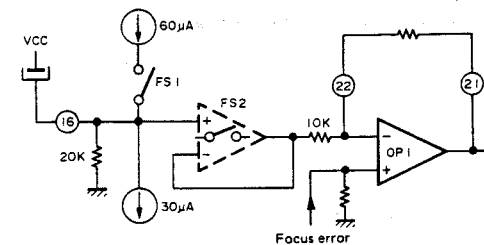

Fig. 6-3 Explanation of FS1, FS2
The operation of FS1, FS2 is described next. ②1, ②2 etc. in Fig. 6-3 indicate terminal numbers of CXA1244S (same hereinafter) OP1 is the operational amplifier for focus servo and the output of FS2 is connected to its inversion terminal. FS2 is such a switch that is ON and works as a usual voltage follower at the time of 1; and that its output is of high impedance at the time of 0. FS1 is a simple current switch which is OFF at the time of 1 and works to allow flow of 60μA at the time of 0. This value of 60μA is what is obtained when 240μA is fed to ISET (⑭) terminal. The voltage for focus search is produced using these FS1, FS2.
• \$0X (⑤ SENSE is "FZC")